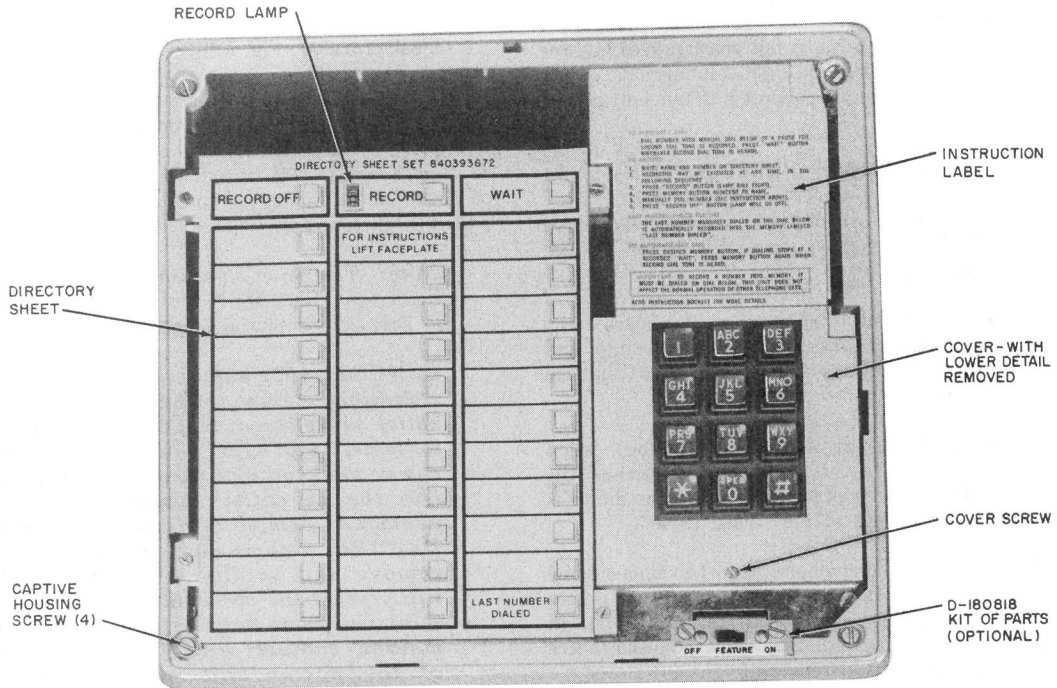

Fig. 2—2870B1M Dial, Faceplate Removed
D. Operating Features**2.06 Operating Features (Fig. 2).**
3.05 Directory sheets (Fig. 2) are held in place by the faceplate. Additional sheets are available in directory sheet set, 840393672.
- (1) Disconnect power unit from ac outlet.
- (2) Remove the faceplate (paragraph 3.11 or 3.12).
- (3) Loosen the captive cover screw at the bottom of the cover around the dial (Fig. 2).
- (4) Remove the cover.
- (5) Loosen the two captive dial mounting screws.